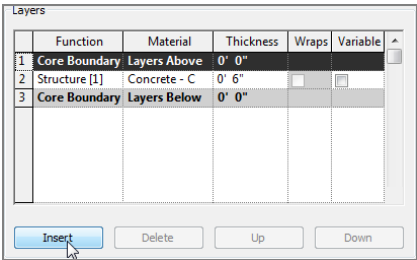

FIGURE 6.38: Adding a new layer
11. In the Edit Assembly dialog box, click the 1 button to the left of the Core Boundary item that is above the Structure layer, as shown in Figure 6.38.
12. Click the Insert button (see Figure 6.38).